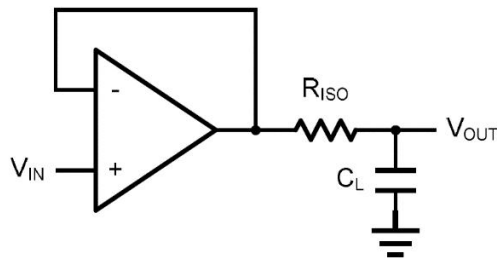
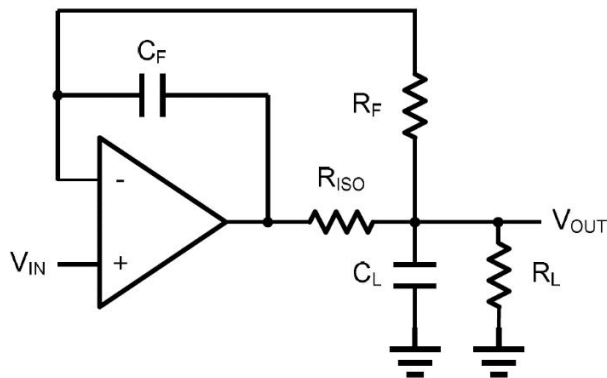

Figure 2. Indirectly Driving a Capacitive Load Using Isolation Resistor
Figure 3. Indirectly Driving a Capacitive Load with DC Accuracy
The CBM855X family is optimized for bandwidth and speed, not for driving capacitive loads. Output capacitance will create a pole in the amplifier's feedback path, leading to excessive peaking and potential oscillation. If dealing with load capacitance is a requirement of the application, the two strategies to consider are (1) using a small resistor in series with the amplifier's output and the load capacitance and (2) reducing the bandwidth of the amplifier's feedback loop by increasing the overall noise gain. Figure 2. shows a unity gain follower using the series resistor strategy. The resistor isolates the output from the capacitance and, more importantly, creates a zero in the feedback path that compensates for the pole created by the output capacitance.
The circuit in Figure 3 is an improvement to the one in Figure 2. R_F provides the DC accuracy by feed-forward the V_{IN} to R_L . C_F and R_{ISO} serve to counteract the loss of phase margin by feeding the high frequency component of the output signal back to the amplifier's inverting input, thereby preserving the phase margin in the overall feedback loop. Capacitive drive can be increased by increasing the value of C_F . This in turn will slow down the pulse response.